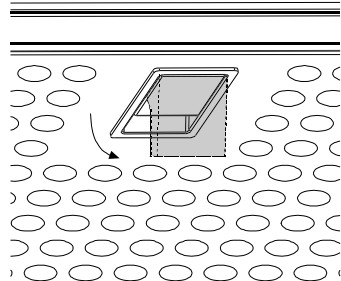

Fig. 4
- First, push the metal grease filter stop backwards, then extract the filter, pulling downwards. **Fig. 4.**